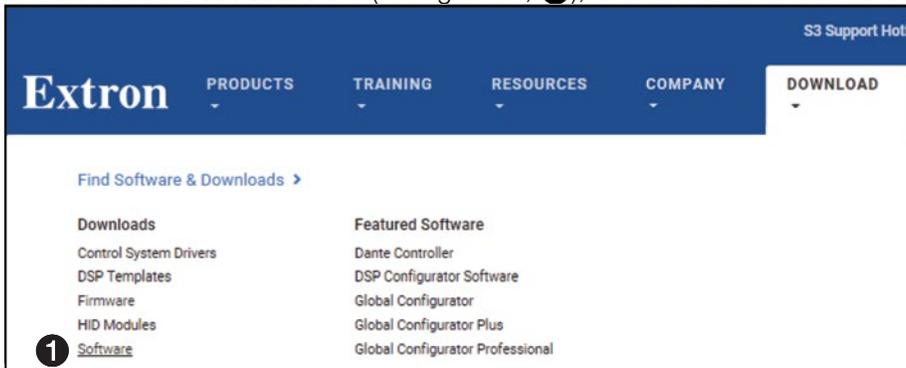

Figure 54. Location of Software on the Website
The Extron Button Label Generator is available on the Extron website, www.extron.com, under the Download Center tab. Click the **Software** link (see figure 54, ❶), and download and install the program on your PC.